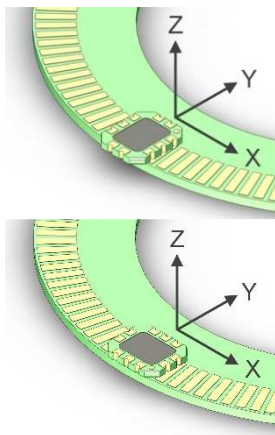
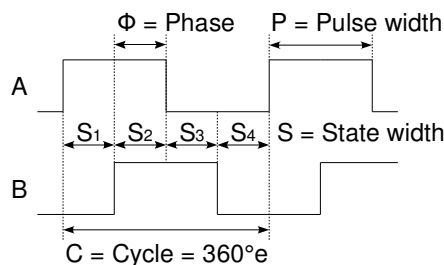

Fig. 1 Coordinate system XYZ.
Fig. 2 Encoder output signals A and B in quadrature.
The ID4501C incremental encoder kit consists of an encoder and a codewheel (Fig. 1). The encoder is an integrated circuit in a PCB housing in SMD-format. It provides incremental A and B output signals in quadrature (Fig. 2). The codewheel is a PCB with passive copper strips. The orientation of the encoder is selected in Table 1.
- Airgap Distance between encoder and scale in Z-direction. See Fig. 1.
- Cycle One A quad B period, see Fig. 2.
- Phase shift Φ Number of electrical degrees between the center of the high state of channel A and the center of high state of channel B. Nominal 90°e. Fig. 2.
- Pulse width P Number of electrical degrees that an output is high during one cycle. Nominal 180°e. Fig. 2.
- State width S Number of electrical degrees between two neighbouring A and B transitions. Nominal value is 90°e. See Fig. 2.